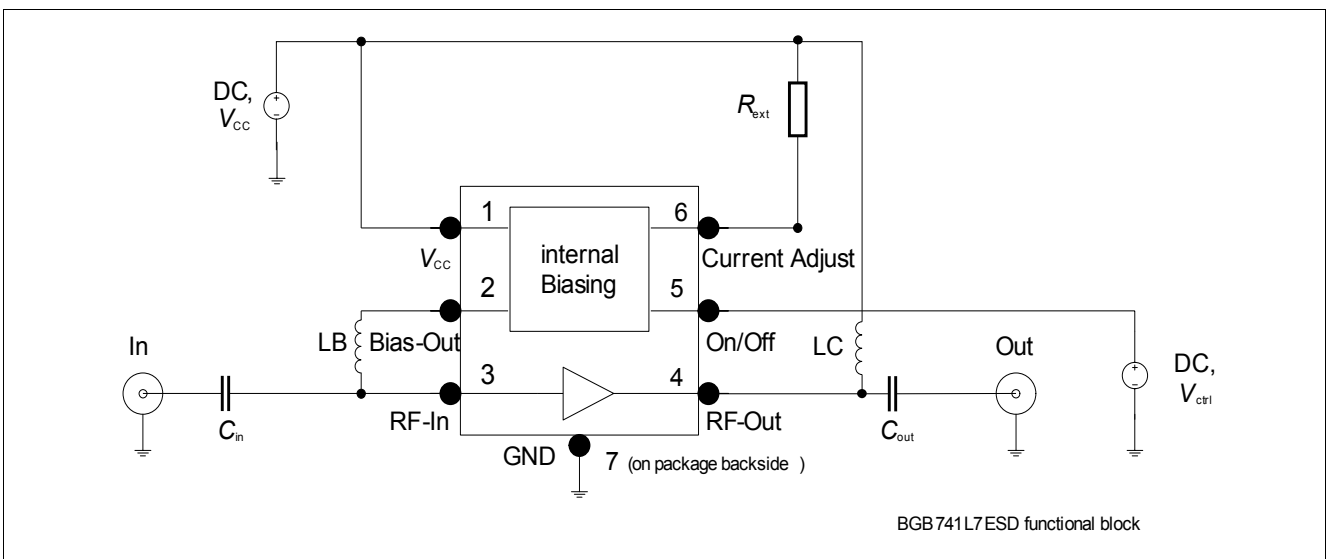

Figure 2 Functional block diagram
3) Measured on an application board according to figure 2) presenting roughly a 50 Ω system to the device.  $I_{\text{Cq}}$  is the quiescent current, that is at small RF input power level.  $I_C$  increases as RF input power level approaches P1dB.
- 3) Measured on an application board according to figure 2) presenting roughly a  $50\ \Omega$  system to the device.  $I_{Cq}$  is the quiescent current, that is at small RF input power level.  $I_C$  increases as RF input power level approaches P1dB.